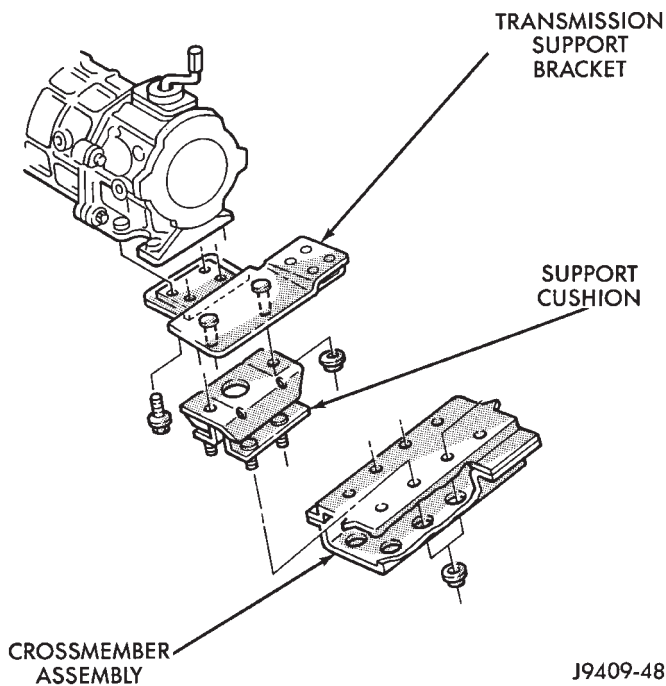

Fig. 9 Rear Mount—XJ Vehicles (Manual Transmission)
- (1) Disconnect negative cable from battery.
- (2) Raise the vehicle and support the transmission.
- (3) Remove the nuts holding the support cushion to the crossmember (Figs. 9 and 10). Remove the crossmember.
- (4) **MANUAL TRANSMISSION (Fig. 9):**